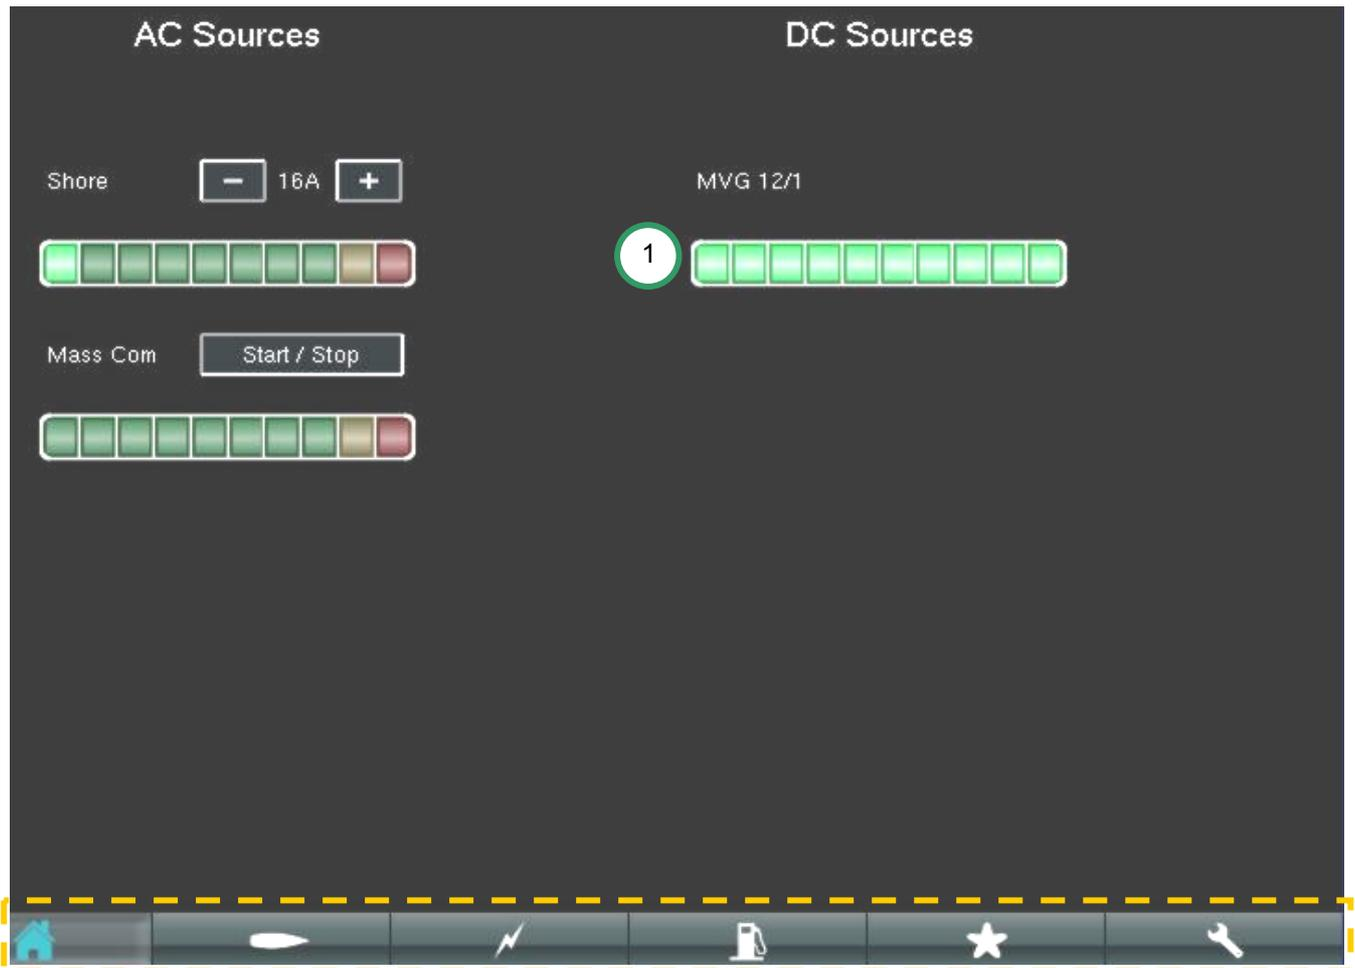

Figure 20: Status page
Figure 20 shows the Navigation bar in the dotted rectangle. The navigation bar features six menus for daily use. The first one is the Status page.
The MasterView System Status page shows the energy status, see figure 20. It tells you what AC and
DC sources are available in your electrical system. It can be used for monitoring, and level for operation as well. A generator can be started or the shore power can be adjusted (figure 20). The battery bar (1) will show only if you added a (virtual) battery on the Device page (see section 6.4).